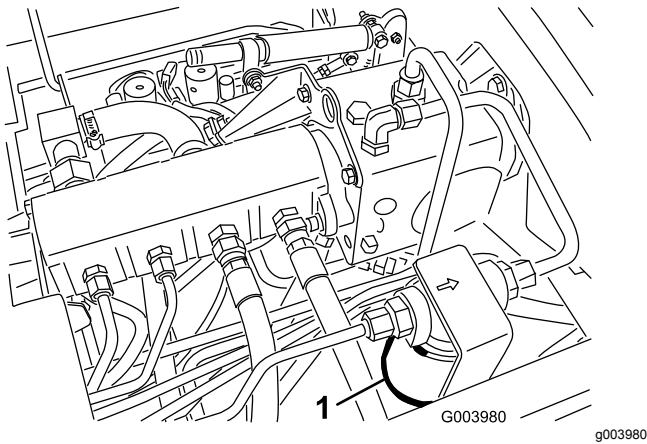
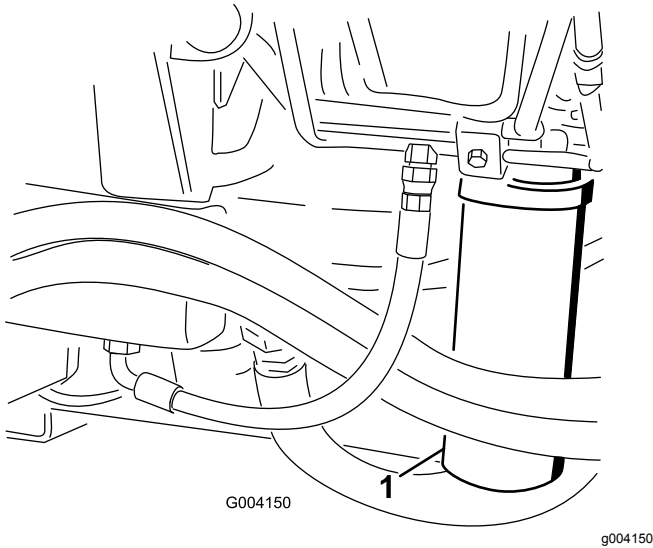

Figure 70
Figure 71
2. Clean the area around the filter mounting area and place a drain pan under the filter (Figure 70) and (Figure 71).